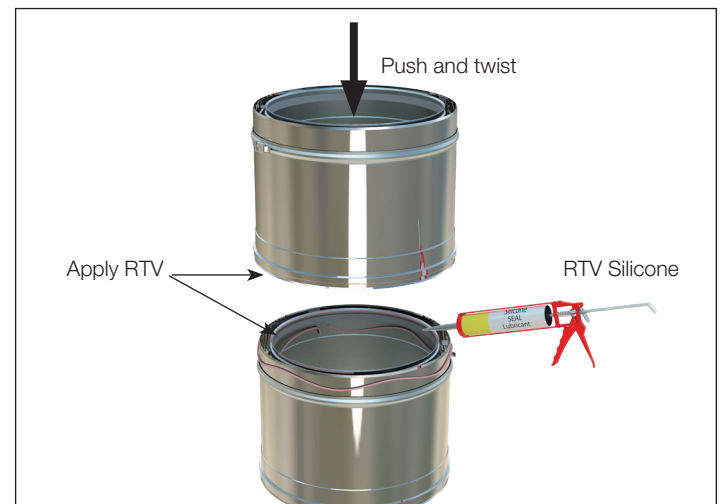

Fig 1-2: Applying RTV Silicone
3. Apply a 1/4" bead amount of RTV Silicone around the outer circumference of the male end. Do the same around the inner circumference of the Elastomer Seal, while also checking the seal for any potential signs of damage. See Fig. 1-2. Repeat these steps for the outer jacket.